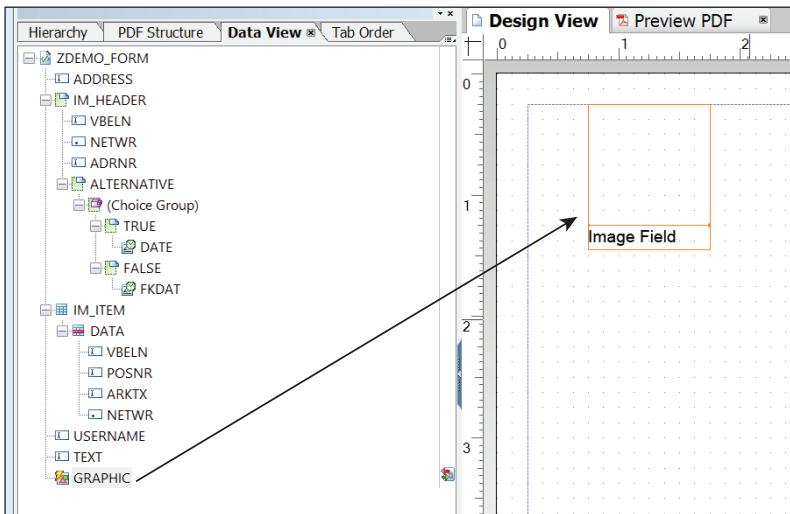

Figure 18.91 Adding Field from Data View
- An easier way to add the image field to the design view is to simply drag the GRAPHIC node from the DATA VIEW to the DESIGN VIEW area, as shown in Figure 18.91. This will automatically bind the field.